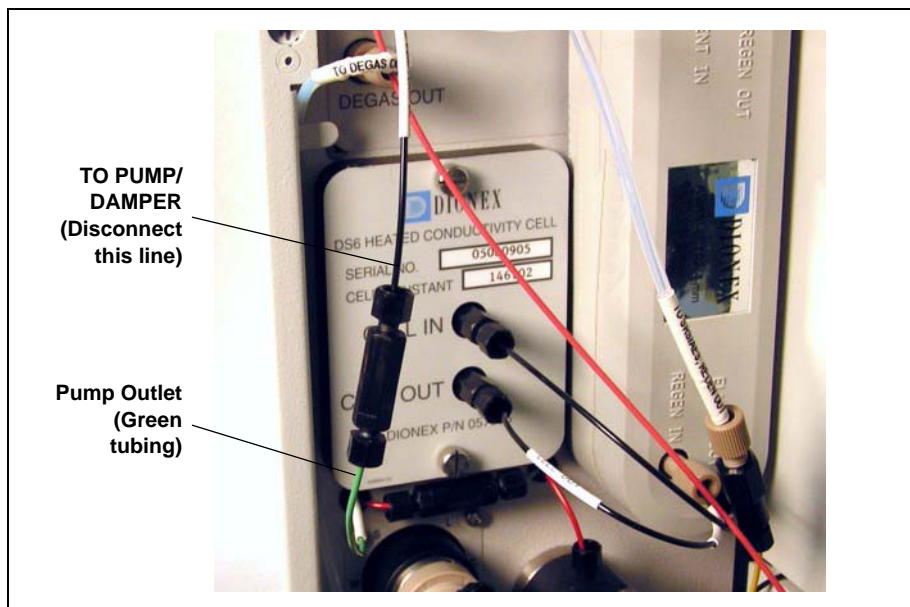

Figure 5-68. Disconnect the Cartridge Inlet and Pump Outlet
2. Disconnect the EluGen cartridge inlet line (labeled **TO PUMP/DAMPER**) from the coupler that connects it to the green pump outlet line (see Figure 5-68).